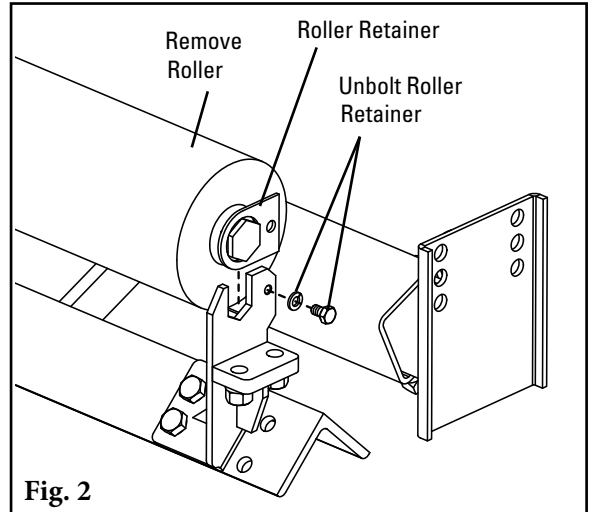

Fig. 2
- 2. Remove roller** by unbolting Roller Retainers (Fig. 2).
2. Loosen nut at base of sensor roller and remove from adjuster arm (Fig. 2).